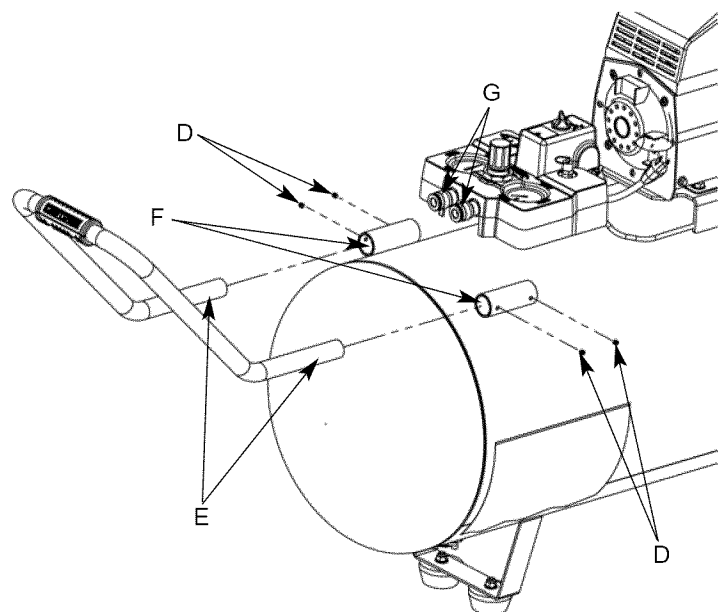

Fig. 2
3. For horizontal compressors only, install the handle by loosening the set screws (**D**) and then placing the handle ends (**E**) into the handle brackets (**F**) and secure with the set screws (**D**) (see *Fig. 2*). Tighten screws using a size 3mm hex wrench (not included).